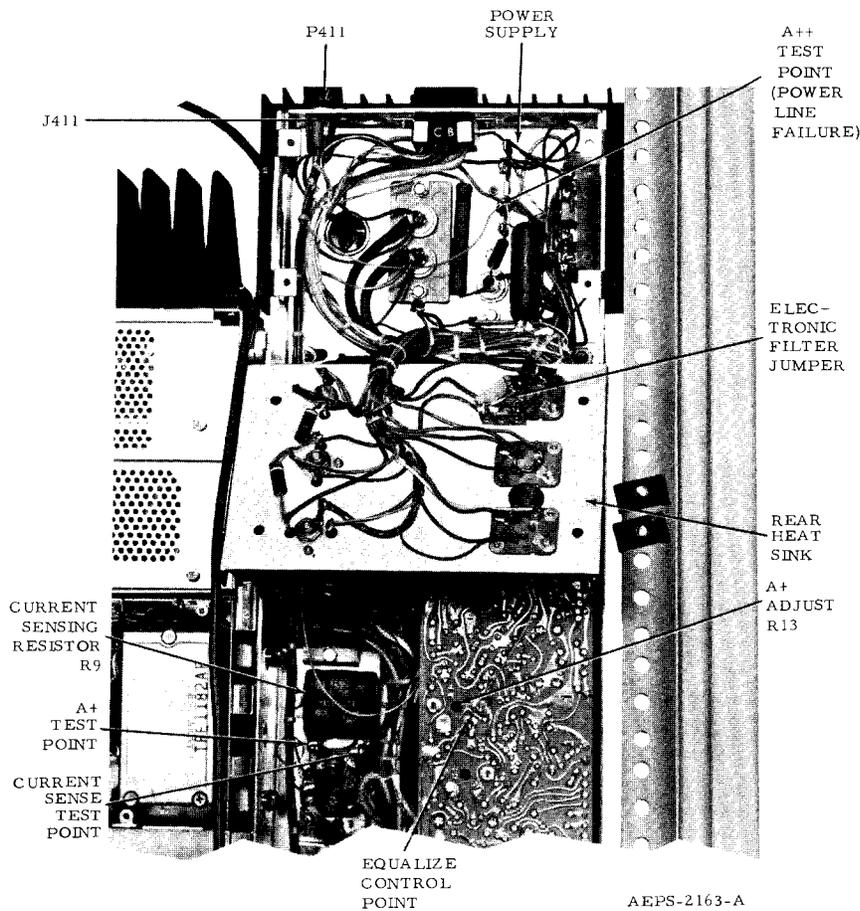

Figure 6.
Make sure the electronic filter jumper is connected (see Figure 6 and the schematic diagram). All stations equipped for emergency power operation -- with emergency reverting only or both reverting and battery protection -- require this jumper. The jumper eliminates the voltage drop across the electronic filter transistor in order to utilize the full battery power during emergency power operation.
1. Connect a dc voltmeter (sensitivity of 20,000 ohms/volt or higher) to read the collector-to-emitter voltage of series regulators Q1 and Q2, as follows (refer to Figure 6): Connect the negative meter lead to the "current sense" test point, which connects via a brown-yellow lead to the emitters of Q1 and Q2. Place the positive meter probe on the case (collector) of either Q1 or Q2; use care so as not to short the case to the heat sink.